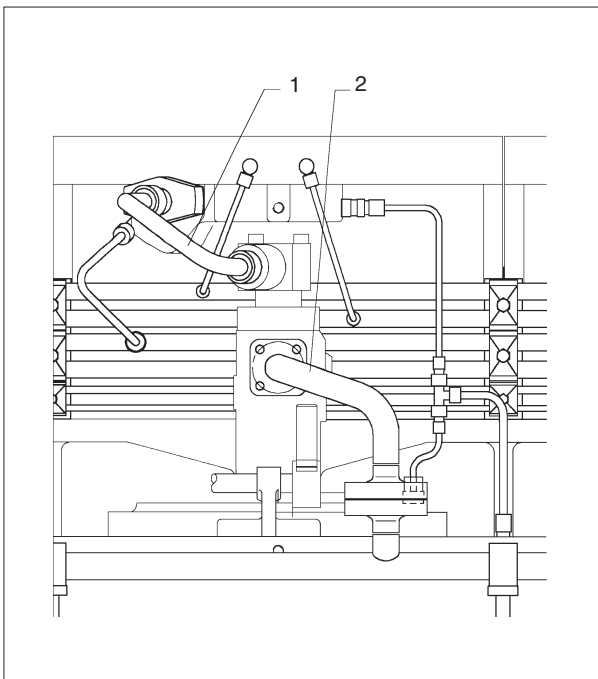

Fig. 1 View from Control Side
1. Dismount the fuel injection pipe pos. 1 fig. 1 and the fuel inlet pipe pos. 2.